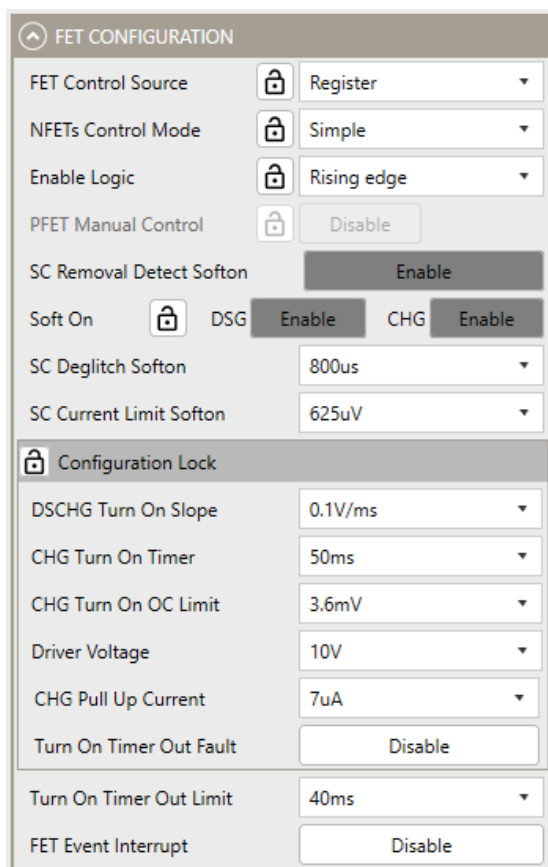

Figure 12: FET Configurations
7. Configure the FET (see Figure 12).